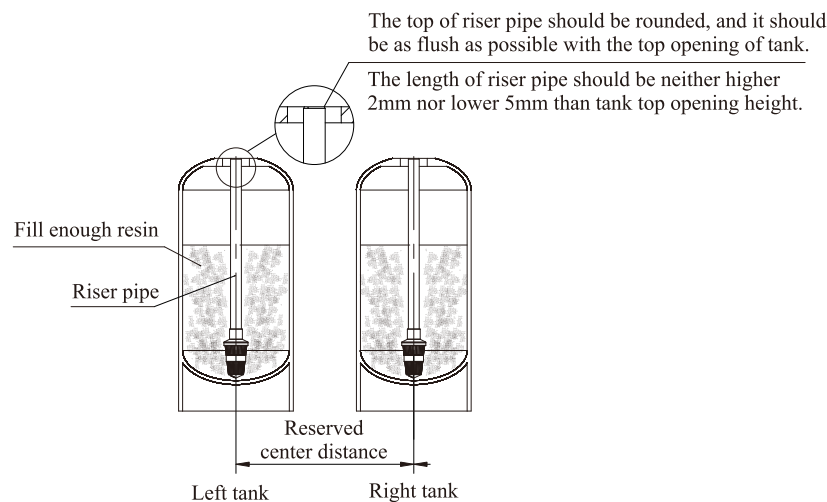

Figure 1
a. As the Figure1 shows, put two resin tanks side by side, the center distance of the resin tank is reserved according to the actual. Select the riser pipe with 32mm OD, glue the riser pipe to the bottom strainer and put it into the resin tank, cut off the exceeding tube out of tank top opening and round it.